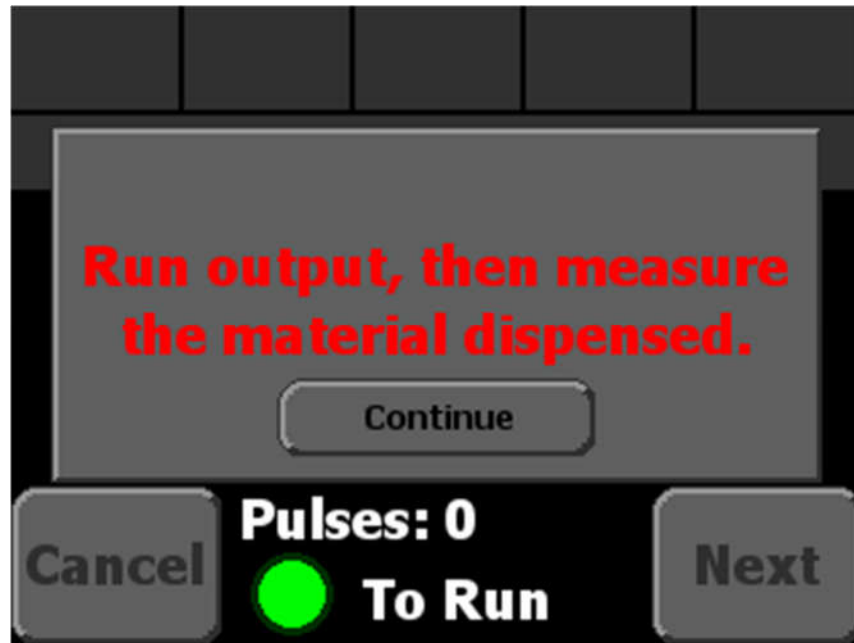

Figure 7: Prewet AutoCal Screen
- STEP 4: The Prewet AutoCal screen will appear, as shown in Figure 7.